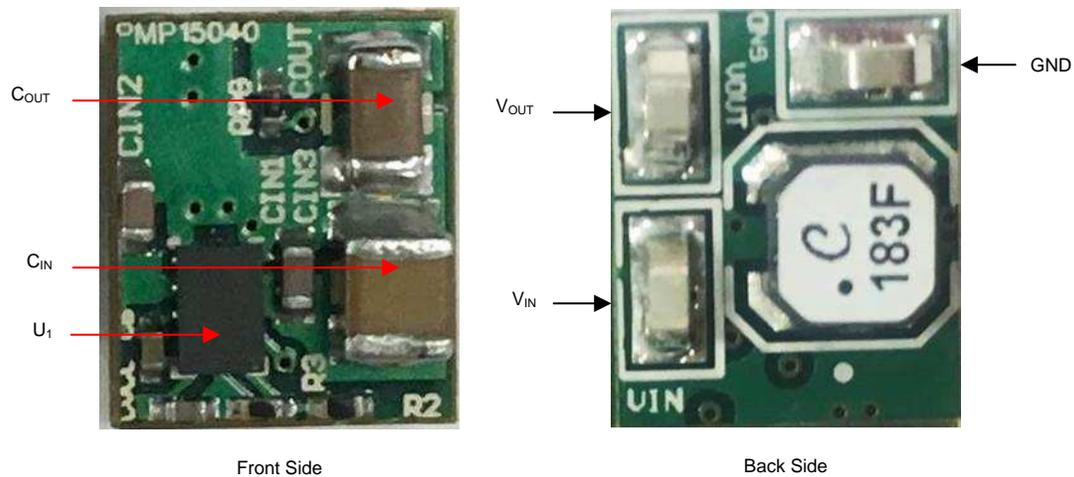

Figure 14. PMP15040 Board Setup
1. Connect a DC power supply to the board input as shown in Figure 14.
2. Connect an electronic or resistive load to the LMR36006 output (V_{OUT}), as shown in Figure 14, to imitate the typical load.